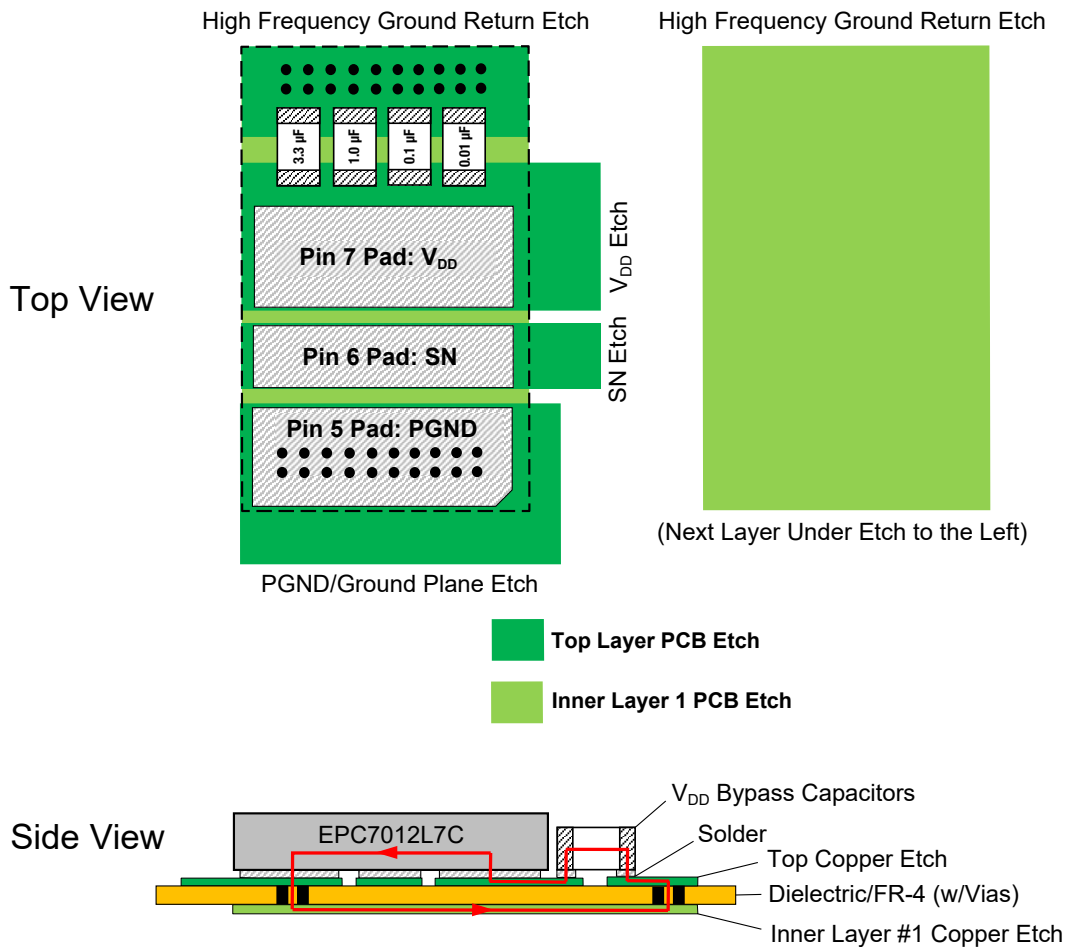

Figure 4. Recommended Optimum  $V_{DD}$ -to-PGND Power Supply Bypass Capacitor Layout (Not to Scale)
Because of the extremely high rate-of change of voltage seen at the SN output it is recommended that a minimum of one (1) 3.3  $\mu\text{F}$  microfarad ceramic capacitors, one (1) 1.0 microfarad ceramic capacitor, one (1) 0.1 microfarad ceramic capacitor and one (1) 0.01 microfarad ceramic capacitor, all with sufficient voltage de-rating, be connected from  $V_{DD}$  to PGND. All four of these capacitors should be low ESR types, if possible. It is strongly recommended that these capacitors have the smallest possible case sizes possible such that they inscribe the smallest possible loop area between  $V_{DD}$  and PGND so as to minimize the inductance related to this loop area. Also, to reduce the inductive loop between  $V_{DD}$  and PGND is strongly recommended that an induction loop cancellation layout of the high frequency power supply capacitors be employed. Figure 4 illustrates the recommended optimum layout and placement for the  $V_{DD}$ -PGND high-frequency bypass capacitors.
It should be noted that in Figure 4 that the light green copper etch area on the PCB's inner layer #1 is positioned directly beneath the copper etch clad on the top layer, as indicated by the dashed line.
The requirements of each PCB implementation of the EPC7012L7C may not allow the recommended optimum layout shown in Figure 4 to be implemented, but care should be taken to keep the recommended layout as physically and mechanically close to it as possible.